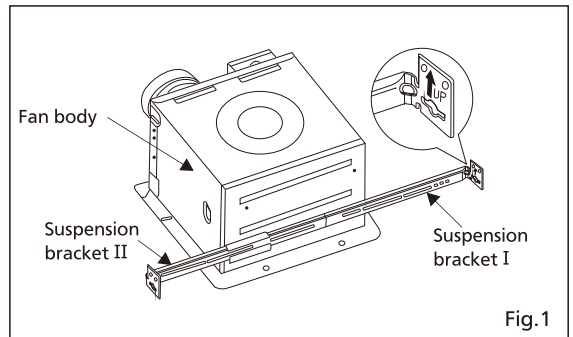

Fig.1
2. Insert the suspension bracket I and II into the fan body. (Select the suspension bracket connection holes as shown below.) (Fig. 1)